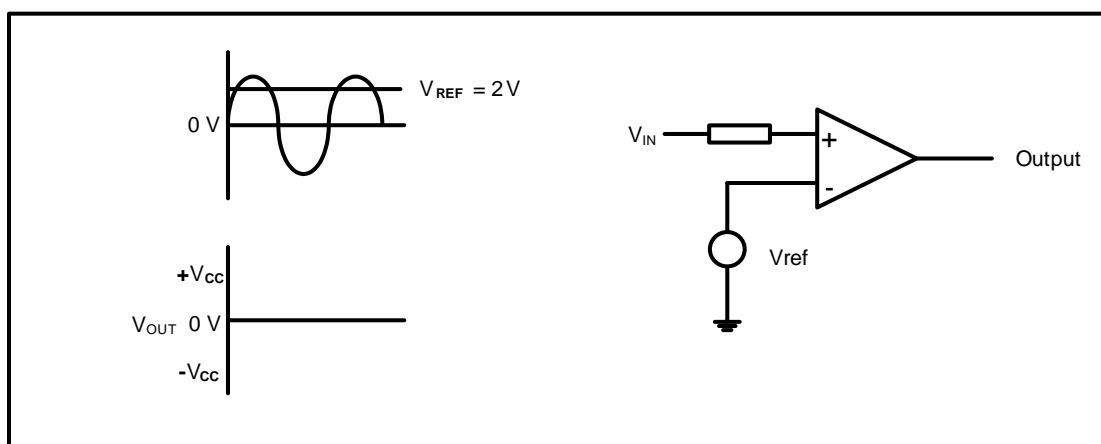

FIGURE 7.2
7.2 FIGURE 7.2 below shows a non-inverting voltage comparator and the input voltage.
7.2.2 State ONE application of the operational amplifier in FIGURE 7.2. (1)